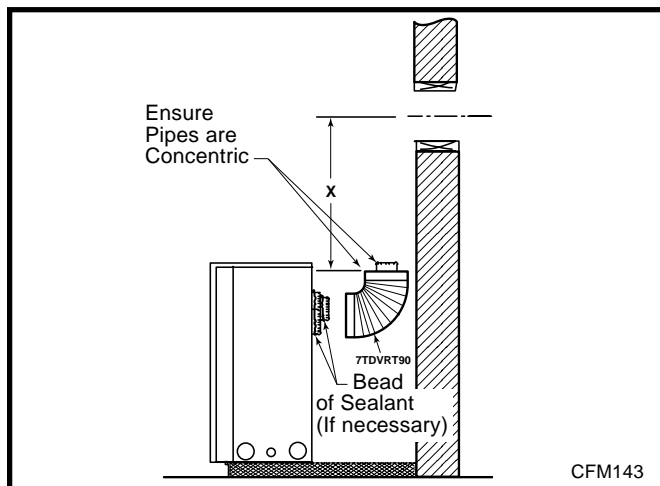

Fig. 23 Apply bead of sealant as needed.
Apply a bead of high temperature sealant to the inner and outer flue collars of the fireplace and using appropriate venting component(s) attach to fireplace with three (3) screws. (Fig. 23) Follow with the installation of the inner and outer elbow. Again secure joints with three (3) sheet metal screws. Wipe off any excess high temperature sealant.